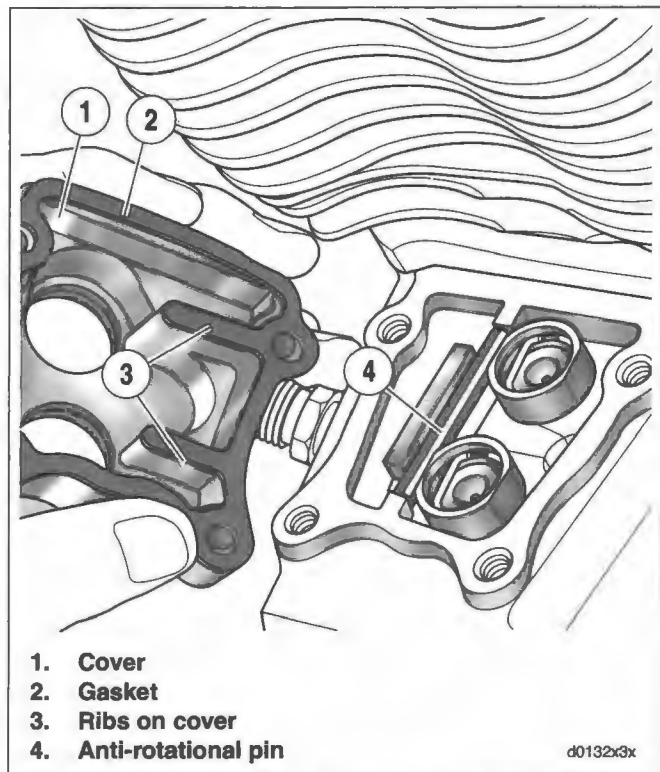

Figure 3-43. Installing Lifters
2. See Figure 3-43. Place the anti-rotational pin (4) on the machined flat between the blocks cast into the crankcase.
3. Install a **new** lifter cover gasket (2) aligning the holes in the gasket with those in the cover (1).